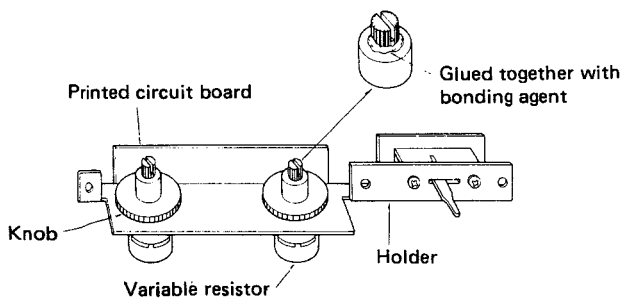

Fig. 2
- (4) As the knob is fixed to the VR shaft with a bonding agent, remove the bonding agent first with a sharp-tipped screwdriver, or razor knife. (Fig. 2)
- (5) After removing the knob from the control shaft, the variable resistor (control) can be replaced by removing the control fitting nut as well as the solder.